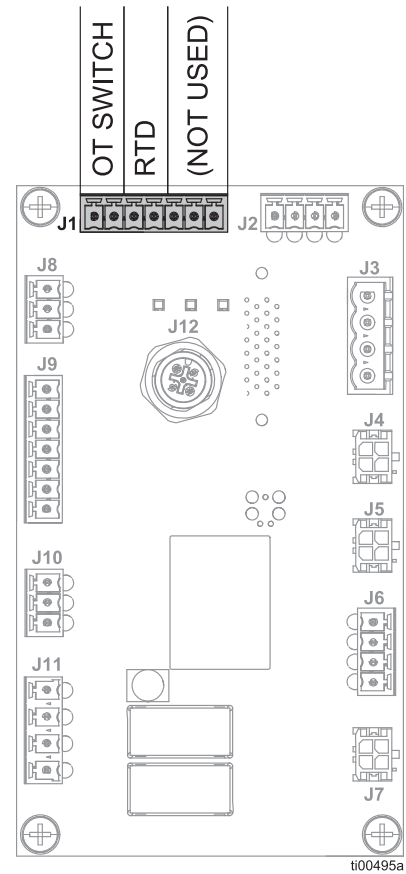

FIG. 73: Melter Control Connections (J1)
2. Remove the melter cover (10). See **Remove Equipment Covers**. Follow the steps on page 80.
4. See FIG. 73 and **Electrical Schematics**, page 103 for wiring details.
- b. Pull the RTD lead out of the electrical enclosure grommet (210).
- d. Pull the new RTD sensor through the electrical enclosure grommet (210).
6. Install the new temperature sensor (252) in the melter.
- a. Remove the temperature sensor retaining screw (264). Remove and discard the old temperature sensor (252).
- b. Install the new temperature sensor (252) in the melter and fasten with the retaining screw (264). Torque to 7-10 in-lb (0.7-1.0 N•m).
7. Install the melter cover (10) onto the equipment. See **Install Equipment Covers**, page 81.